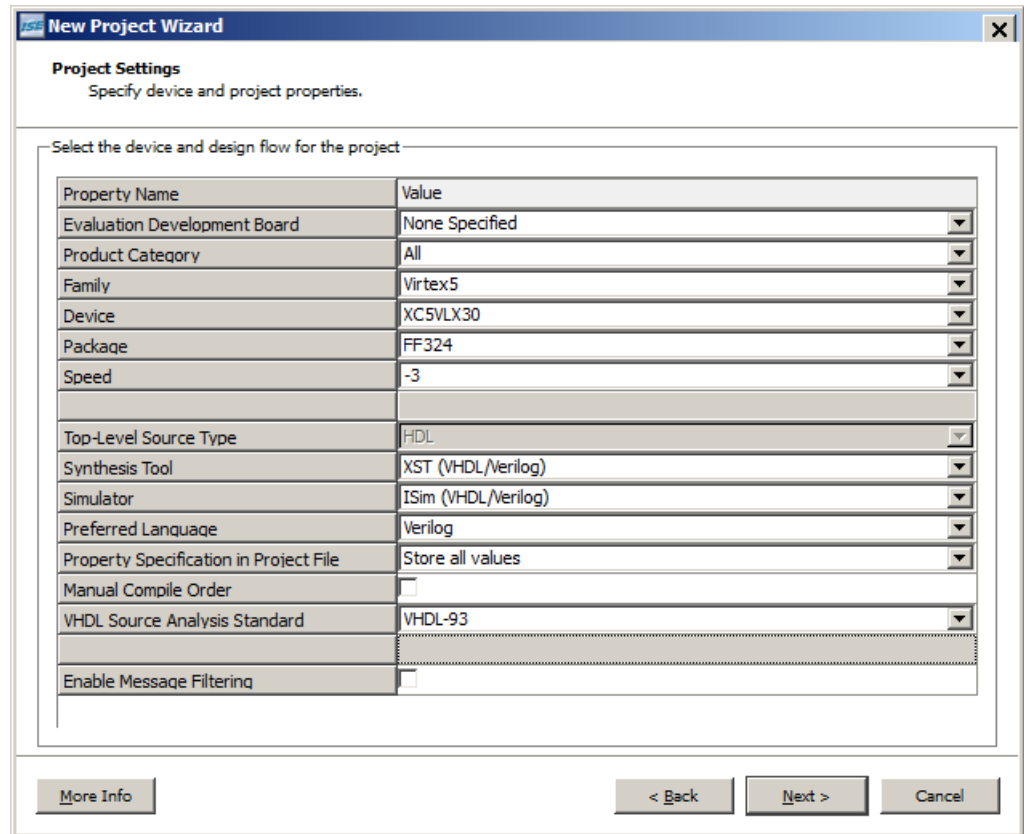

Figure 2-1: New Project Wizard: Project Settings
5. In the Project Settings dialog box, select the device and project properties. Change the settings to match the settings shown in Figure 2-1, page 12, and click **Next** to continue.